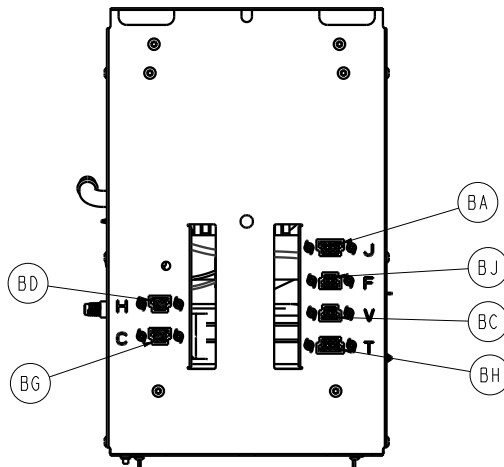

Figure 24 – Heater connector
18. Using wire cutters remove the heater connector (BD) from the top bracket labeled H (Figure 24).